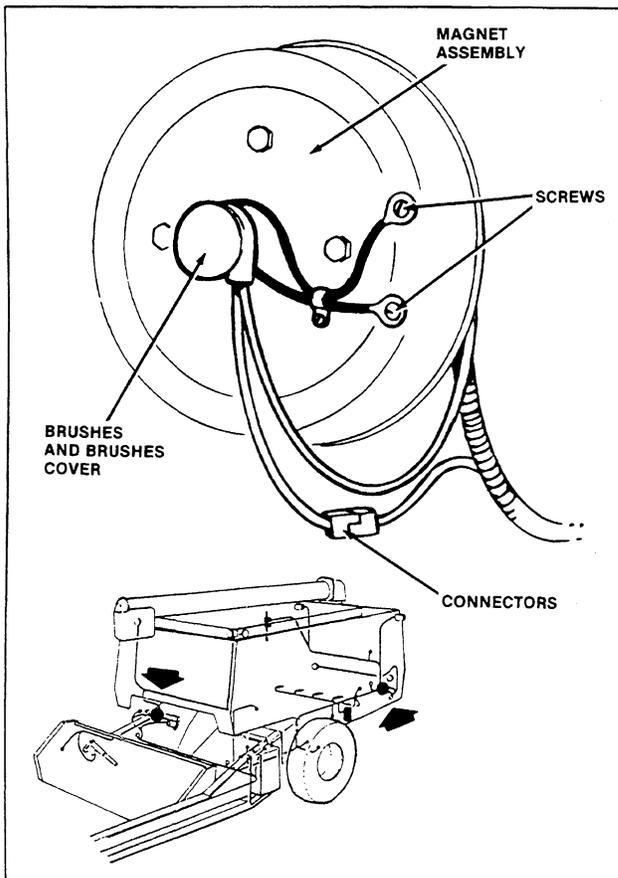

FIGURE 2-3: Electric Clutch
2. Remove two screws from clutch magnet assembly and remove two electrical connectors from magnet, noting position of connectors (Figure 2-3). Install screws.